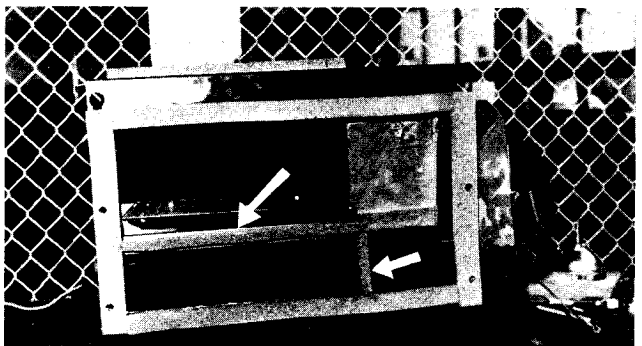

FIGURE 13
13. Rubber cement foam rubber seals (P/N 3035095 and 3035096) into place on the installed baffle assembly (Figure 13).